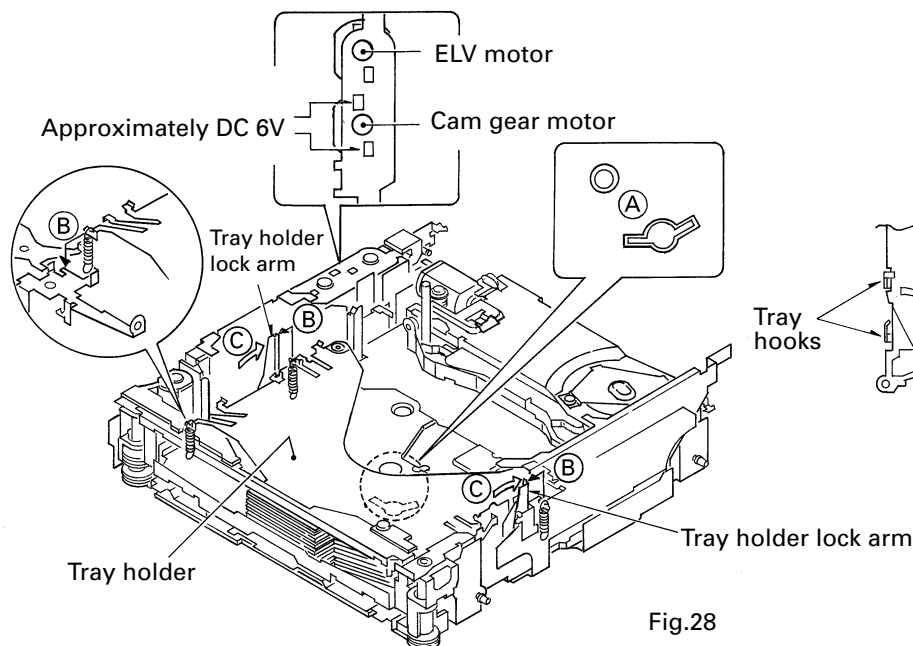

Fig.28
1. Apply about 6V current to the Cam gear motor until all holes match at the position (A) (elevation OK position).
2. Hook the three springs B temporarily as shown in Fig. 28. While pushing the Tray holder lock arms (right
- and left) in the direction (C), remove the Tray holder.
1. Remove the Tray holder and the Tray assy. (See Fig. 28)